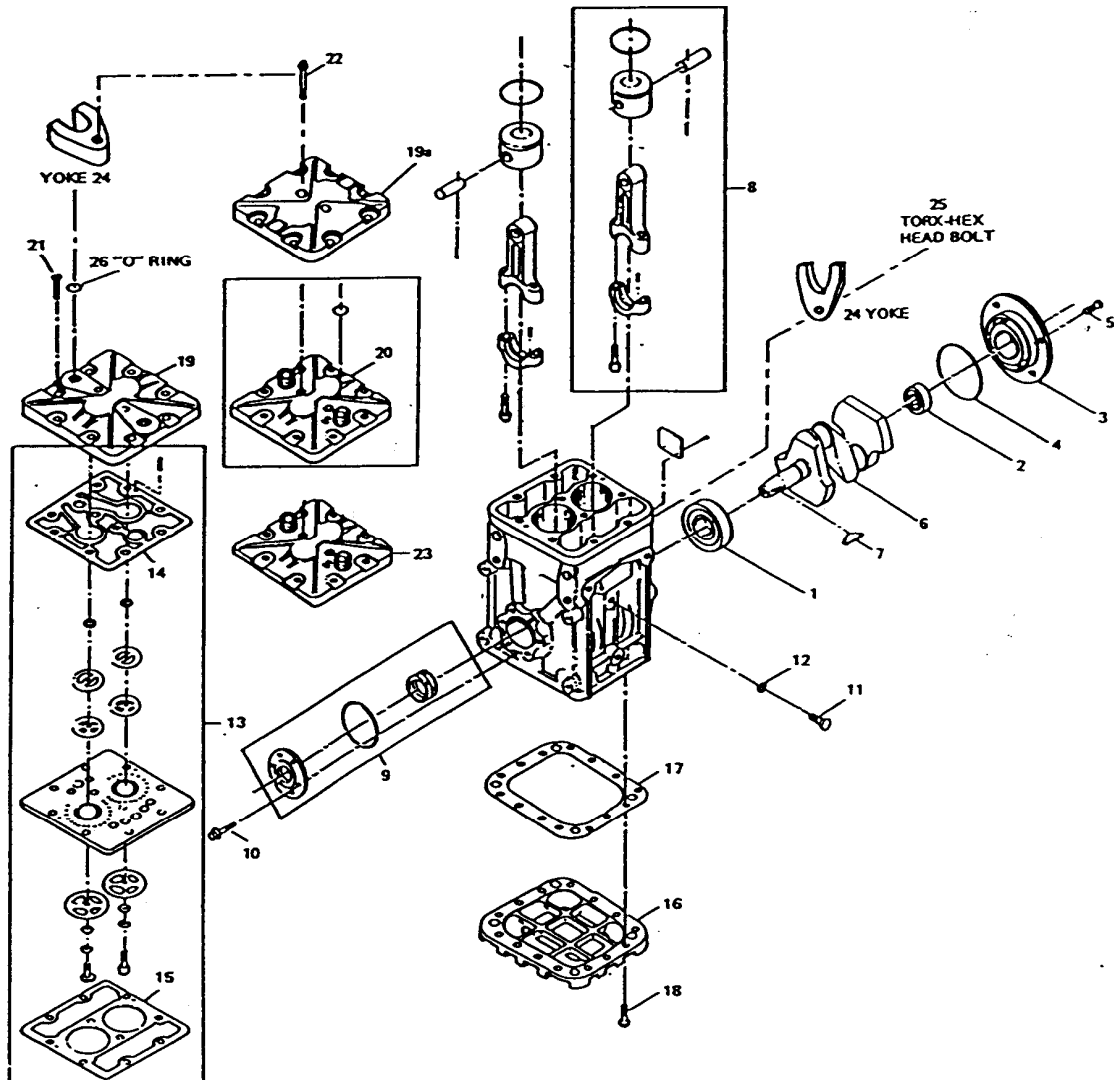

FIGURE 5.
10.1 FIGURE 5 shows the parts breakdown of the compressor. Not all parts are procurable. Only those parts available are listed. Refer to the following Legend.